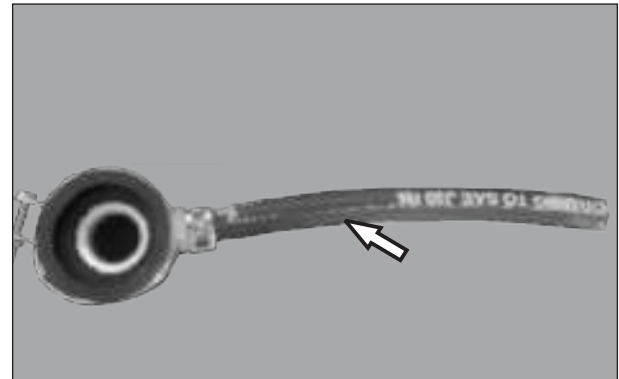

Fig. 8.9
- The two stage CNG reducer outlet is connected to the inlet of the Mixer body CNG through low pressure hose assembly. It is fitted firmly on both ends by means of clips. (Fig. 8.9)